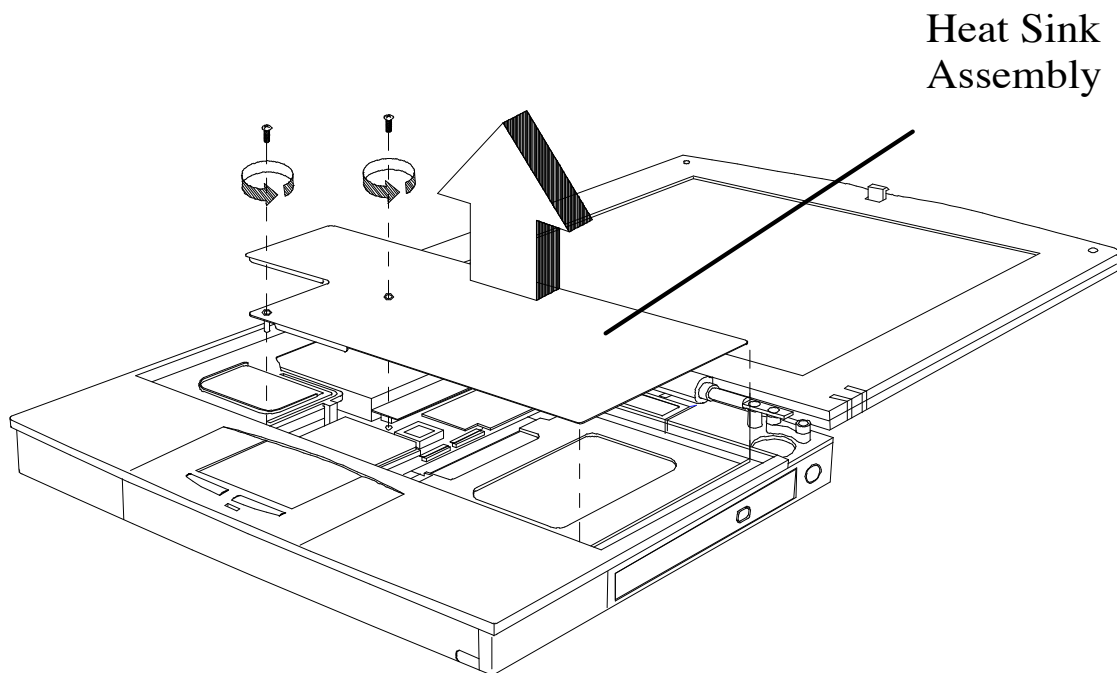

Figure 6-9 Removing/Replacing the Heat Sink Assembly
2. Remove the two screws that secure the heat plate to the housing as shown in Figure 6-9.